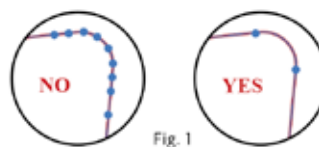

Fig. 1
- ❑ Vector path for custom cut panels provided on a separate, non-printing layer labeled "Cut Path". Use as few anchor points as possible (See Fig. 1). Standard corner radius is 1/16" Any radius is available. Specify size in inches.